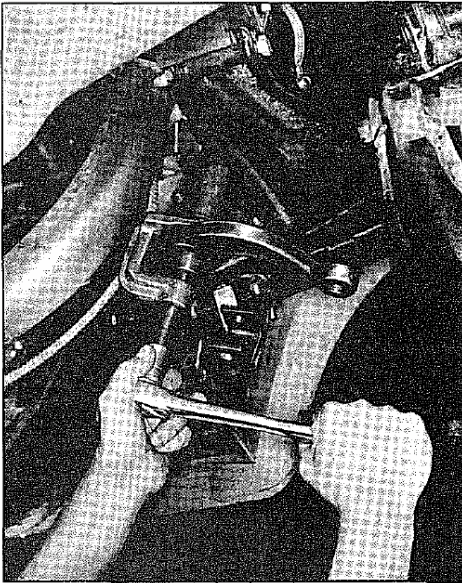

Fig. 2—Removing Pitman Arm
- Remove pitman arm nut and mark relation of pitman arm position to sector shaft. Remove piston arm with Tool J-6632 as shown in Figure 2.